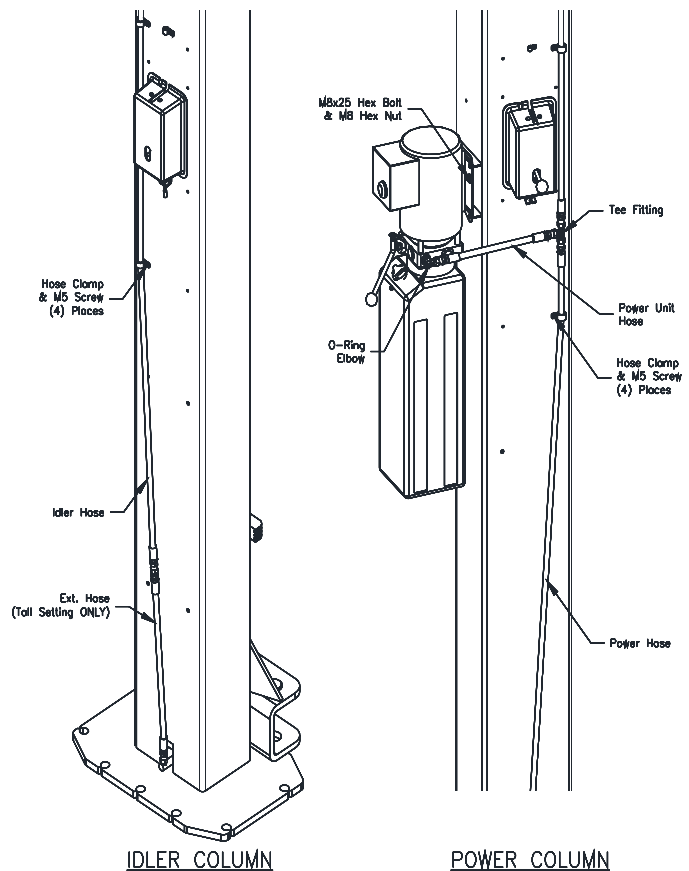

Fig. 6 – Hose Routing
- 21) Mount Power Unit to power column as shown in **Fig. 6** using (4) M8 hex bolts and nuts.
- 26) Route the power hose from the power side cylinder elbow fitting up to the union tee provided. Connect idler hose and power unit hose to the union tee as shown in **Fig. 6**.